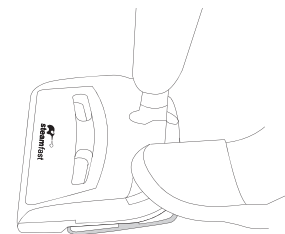

Figure 1
1. To initiate Sweeper Brush, press Sweeper Brush Power Button (Figure 1). Thoroughly sweep the entire surface to remove all debris.